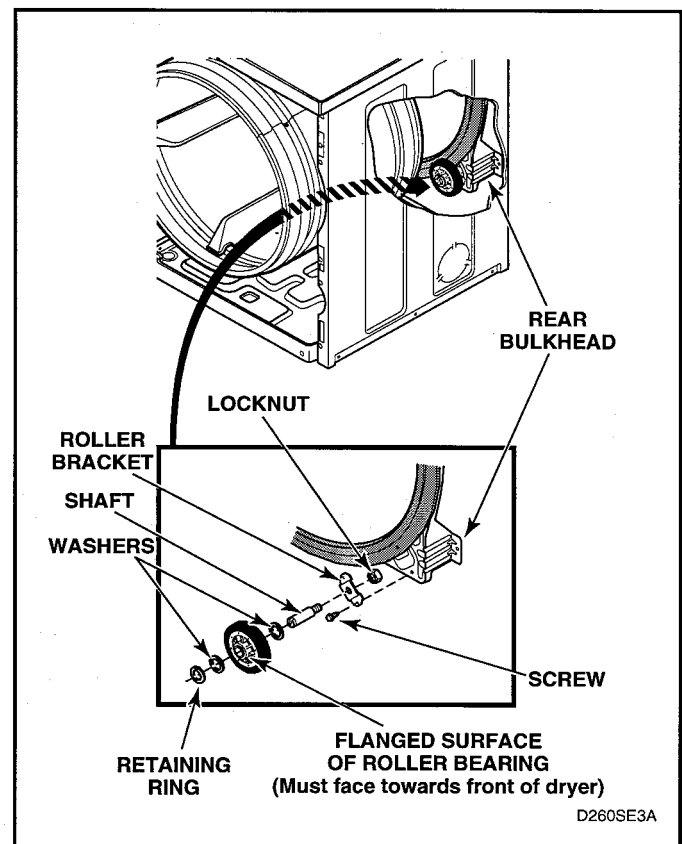

Figure 5-28
- Pull cylinder forward allowing rear of cylinder to drop down exposing rollers. See figure 5-28.
- See figure 5-28 for removal of roller from bulkhead.